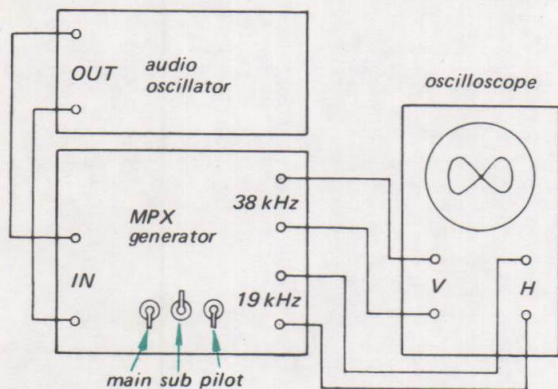

Fig. 3-6. MPX generator preadjustment
- (a) With the equipment connected as shown in Fig. 3-6, set the MPX and audio signal generator's controls as follows: